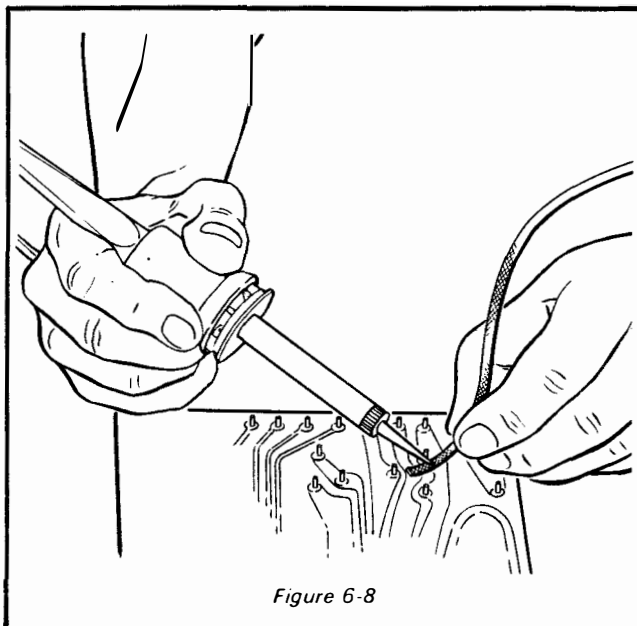

Figure 6-8
1. Apply the solder wick to the pad to be desoldered, see figure 6-8.